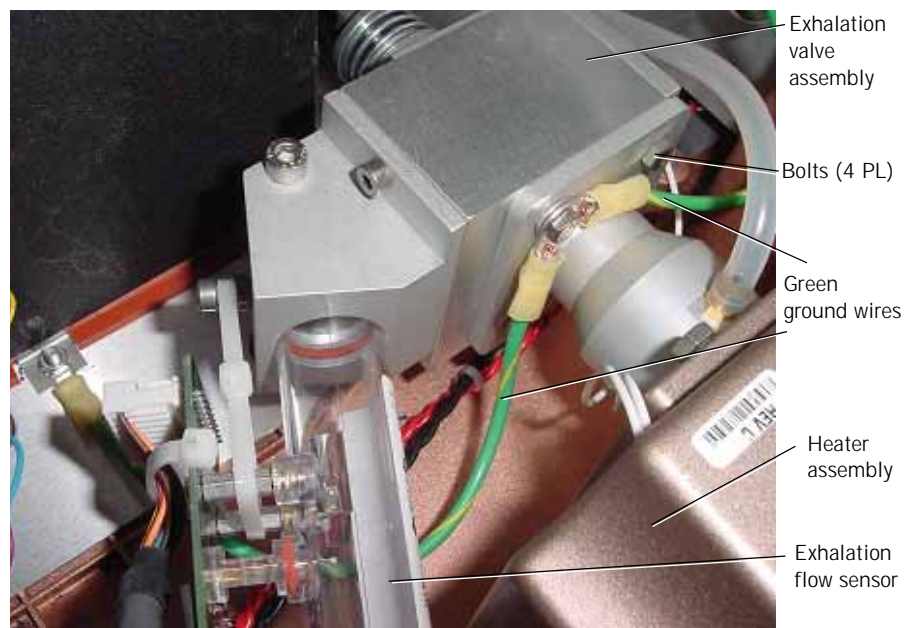
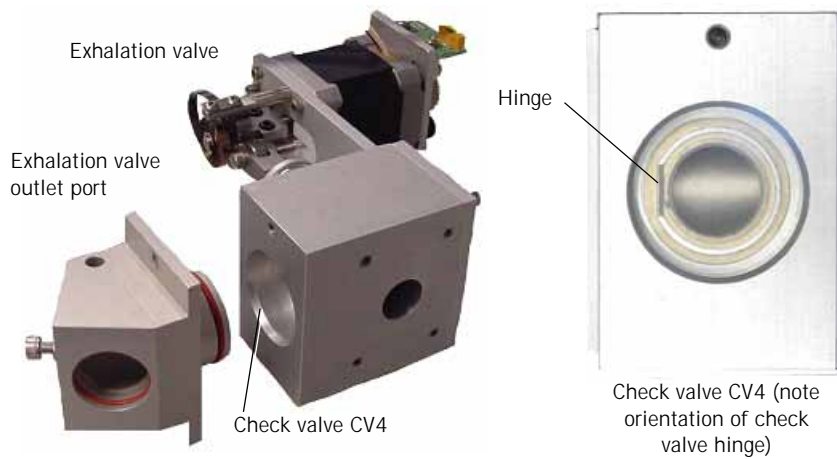

Figure 9-66: Exhalation Valve and Filter Heater Assembly
Figure 9-68: CV4 Check Valve Orientation
NOTE: The CV4 check valve should remain inside the exhalation valve when the outlet manifold is removed. If it falls out, reinstall into the exhalation valve assembly (Figure 9-68).
Follow these steps to remove the exhalation valve assembly (Figure 9-66).
Follow these steps to reinstall the exhalation valve (Figure 9-66 and Figure 9-68).
2. Important: Check that the CV4 check valve is oriented and seated properly (Figure 9-68).